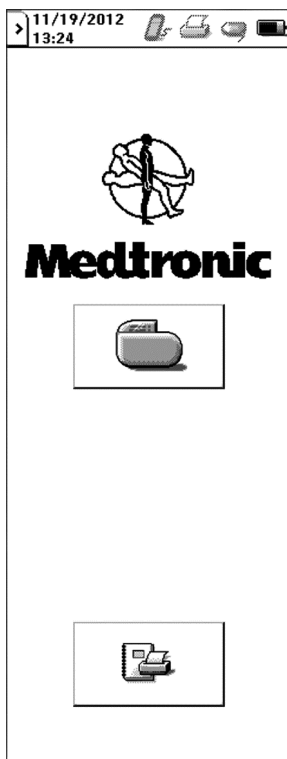

Figure 26. Application selection screen.
The **Application selection** screen displays the session data file status when the Model 8840 Clinician Programmer is turned on (Figure 26 on page 43):
1. Select the **Session data manager** button (Figure 26) from the **Application selection** screen or the slider bar (Figure 4 on page 13).